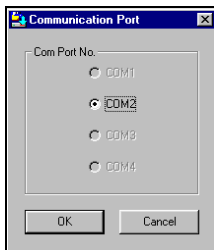

Figure 47 The Com Option box
- From the Options menu choose Com Port. The Com Port box appears. See Figure 47.